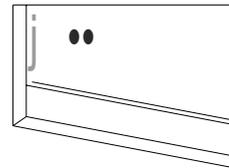
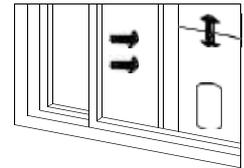

Fig.2
Fig.3
1. Half open the window, and mount the window cover plate to the window (as shown in fig.2 and fig.3); it can be placed in horizontal and vertical direction .